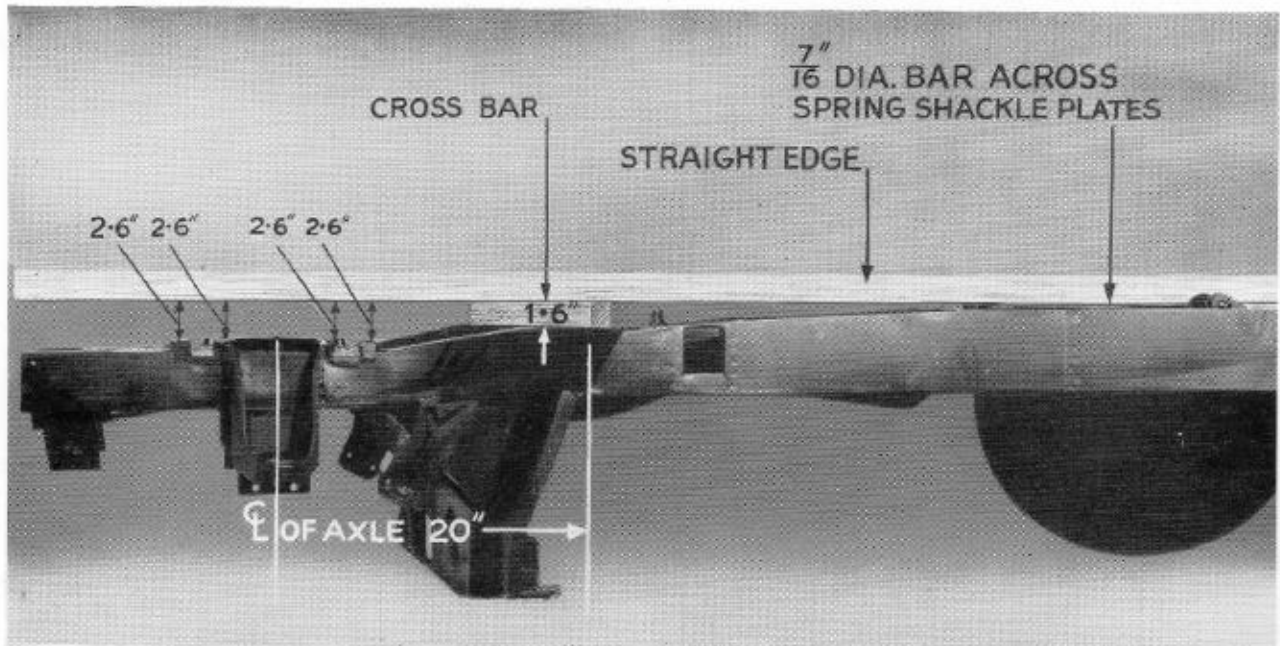

Fig. 11. Checking horizontal alignment of underframe.
2. Place across frame, 20 ins. to the rear of front axle centre line, a suitable member of 1.60 ins. thickness, as shown in Fig. 11. A straight edge should now be placed on the bar which passes through each spring shackle, to extend forward over each of the four right- and left-hand front suspension abutment brackets (situated 6.10 ins. and 3.40 ins. fore and after of the front axle centre line) and 8 ½ ins. to the right and left of the frame centre line. The face of each set of four brackets should be parallel to, and 2.6 ins. from, the straight edge. Each front suspension bracket face measured laterally from a horizontal plane through the frame centre is inclined outwards at 10 degrees.